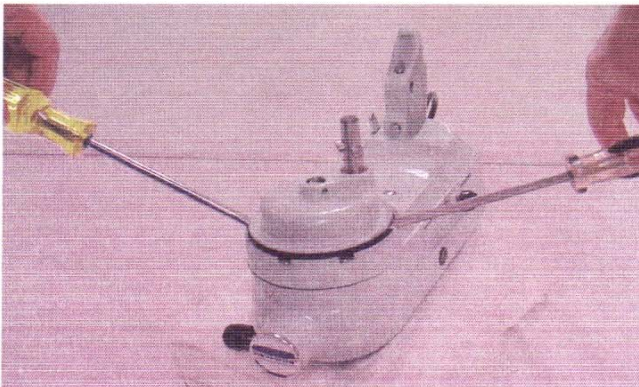

Fig. 7 Use two screwdrivers to pry the planetary off the shaft.
With the pin out, the planetary can be removed from the center shaft. Using two (2) screwdrivers, pry the planetary up and off the shaft (Fig. 7).